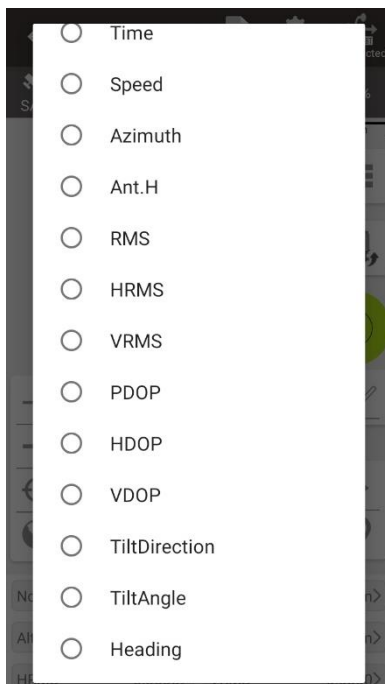

Figure 4.13 Information option list – part 2
- Add stakeout point: click  to enter the stakeout point library which is shown in Figure 4.13 below, refer to section 0 for point library management.